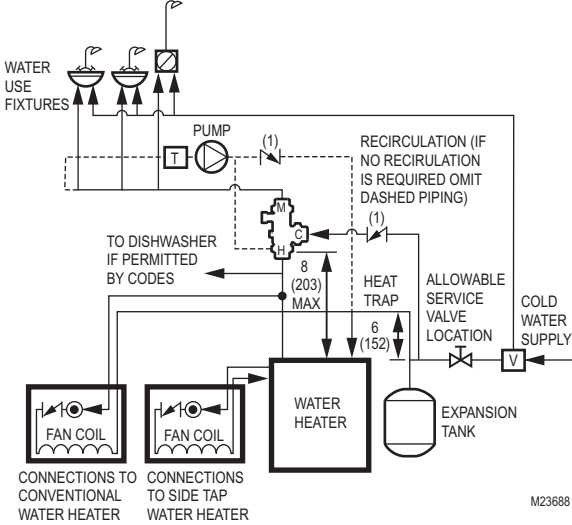

Fig. 5. Water heater is used for domestic water and space heating. Dimensions shown in in. (mm).
- Install recirculation pump between last fixture and water heater, as shown in Figures 5 and 6.